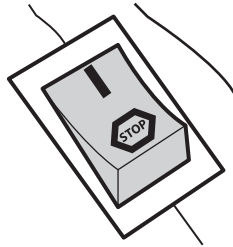

Fig. 16b
- b). Set the ignition switch (A19) to its on position “I”. (See Fig. 16b)